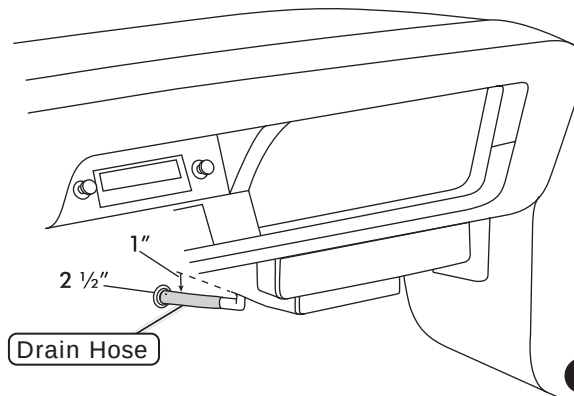

Figure 2
3. Install the drain hose onto the bottom of the evaporator module and route it through the firewall as shown in Figure 2, below.